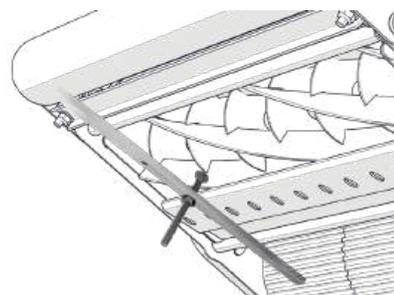

Fig. 8F - Repeat process on the other side
8. Repeat step 7 for the second position on the other side of the cylinder (Fig. 8F).